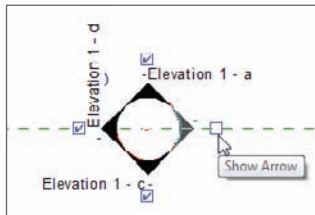

FIGURE 3.82 Turn on all four views in the lobby.
4. With the elevation marker centered in the lobby, select the round bubble. Notice that four blue boxes appear, as shown in Figure 3.82. These boxes let you turn on multiple views. Turn on all four views, as shown in Figure 3.82.